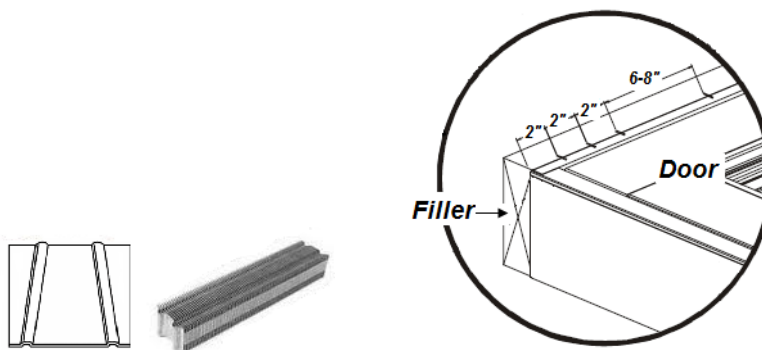

Figure 4
- Using the Corrugated fasteners provided, (the fasteners are usually installed with an air gun but can also be hammered in) nail then into the joint between the door and transom using the nailing sequence shown in figure 4 and ensuring that the fastener is across the center of the mull.
- Nail the corrugated fastener along the joint between the door and transom using the nailing sequence shown in figure 4 and ensuring that the fastener is across the center of the mull.